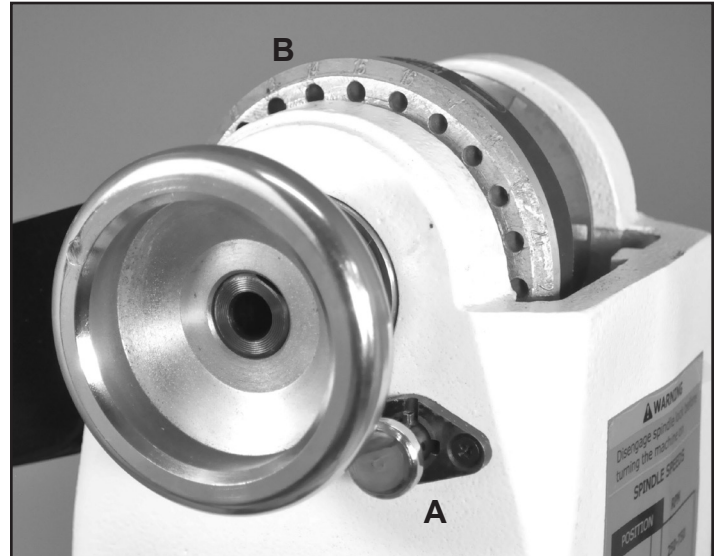

FIG. 1
1. **HEADSTOCK SPINDLE LOCK:** The spring loaded Index Pin Assembly (#43, FIG. 1, A) is primarily used to position the spindle for making accurate, spaced pattern work on projects such as straight fluting, grooving, drilling, detail carving, wood burning patterns and laying out designs. See page 13 for more information.
2. **HEADSTOCK INDEXING HOLES:** (FIG. 1, B) The largest Spindle Pulley (#52, B) has 24 positioning holes located around its left side. Each index hole is 15° apart, and marked for reference around the perimeter of the pulley. Insert the Indexing Pin (A) into one of these holes, and the spindle will be locked so that work can be done on the workpiece. See page 13 for additional information.